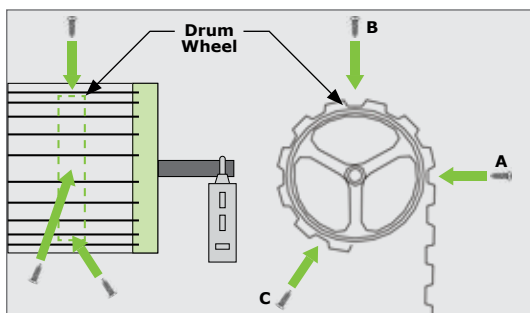

FIGURE 23
2. With the garage door in the fully-closed position, mark the curtain at points "A", "B" and "C" as depicted in Figure 23.